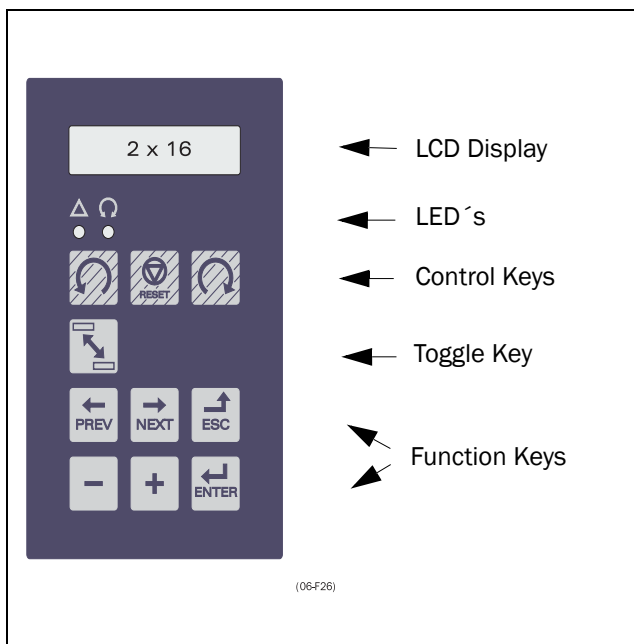

Fig. 12 Control Panel.
Fig. 12 shows the Control Panel (CP). The Control Panel displays the status of the inverter and is used to program all the settings. It is also possible to control the motor directly from the Control Panel.